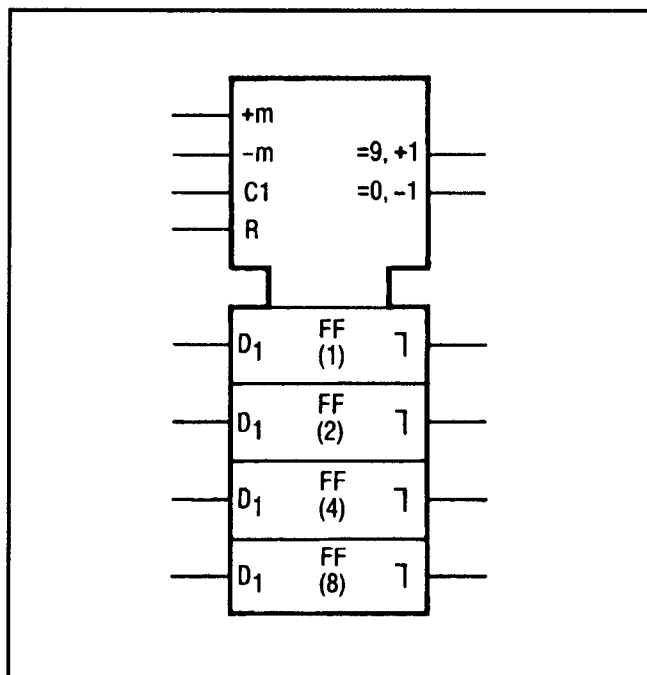

Figure 8-12. UP-DOWN Counter
**UP-DOWN Counter.** The counter control block shows common inputs to a Presettable Decade UP-DOWN Counter (see figure 8-12). Notice that “+*m*” means count up (increment the count) by “*m*”; “-*m*” means count down by “*m*”. Note: if *m*=1, then “*m*” may be omitted. Since the D-type flip-flops are master-slave, the output delay indicator is used. The “=9, +1” and “=0, -1” notation defines when the carry and borrow outputs are generated. They also define it as a decade counter; a binary counter would have the carry indicated with “=15, +1”. Flip-flop weighting is indicated in parentheses. Input “C1” allows all four “D1” flip-flops to be preset in parallel.